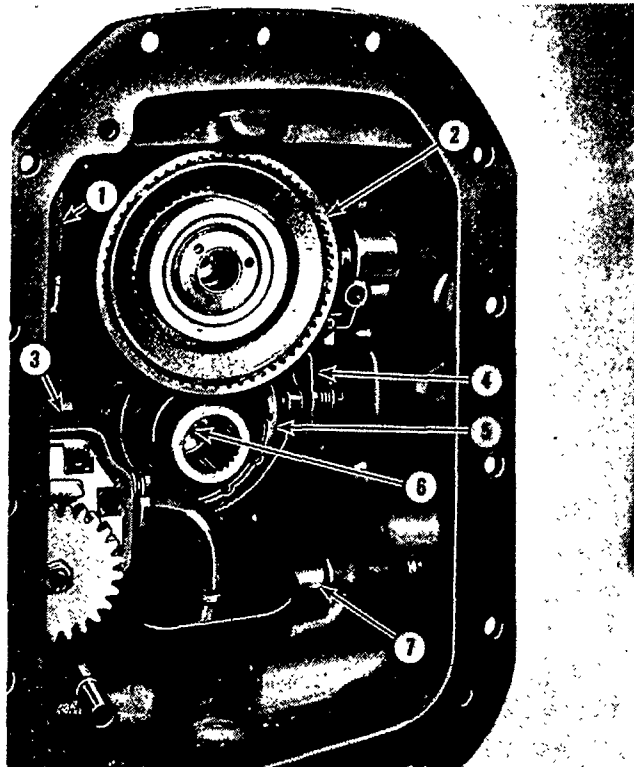

Figure 28
2. Install the hydraulic pump and suction screen assembly, Figure 28, as described in Part II, "Hydraulics."
3. Install the brake cross shaft and Load Monitor fork assembly as shown in Figure 28. Refer to Part 10, "Rear Axle and Brakes."